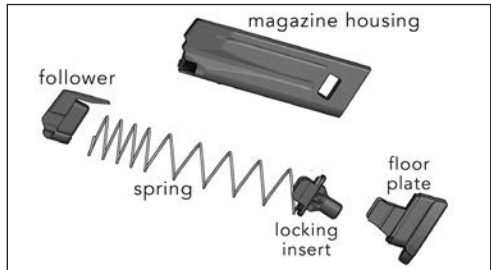

Figure 29
5. Remove the locking insert, magazine spring and magazine follower from the magazine housing. Figure 29 shows all the magazine components for 10 round magazines.